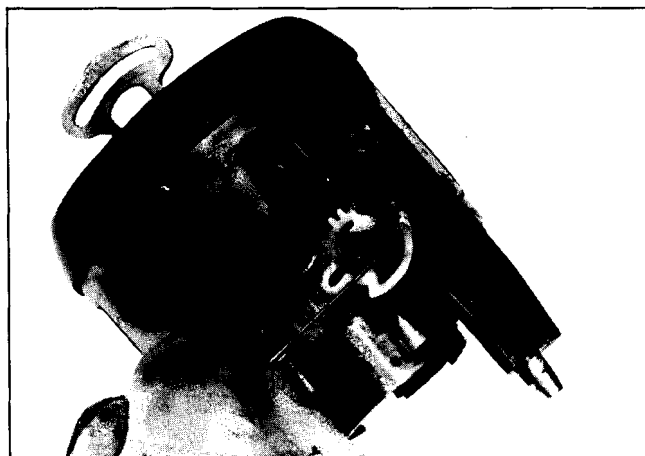

Fig. 9-59 Removing or Installing Lock Bolt Spring
2. Remove lock bolt spring by removing spring retaining screw and moving spring clockwise to remove from bolt (Fig. 9-59).
7. Install lock bolt spring and spring retaining screw. Tighten to 35 lb. in. torque (Fig. 9-59).